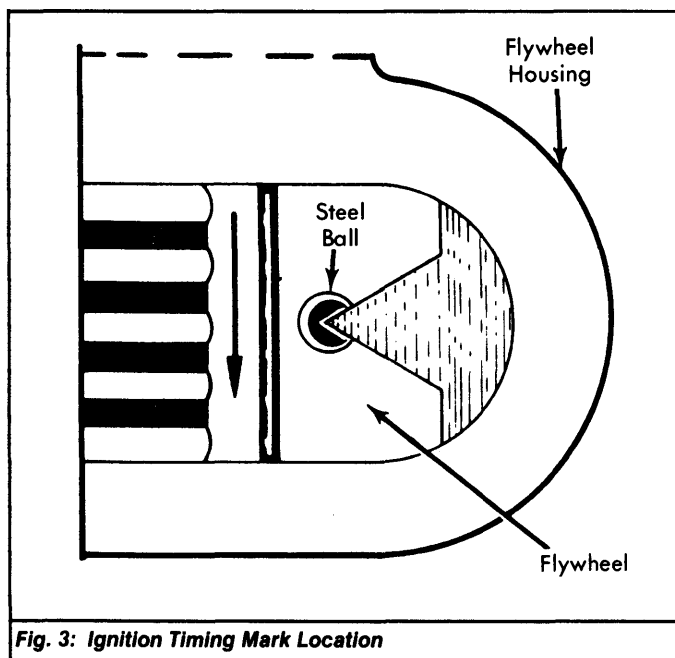

Fig. 3: Ignition Timing Mark Location
- 2) Steel ball embedded in flywheel, long pin on automatic transmission equipped models, should line up with pointer attached to hole in flywheel housing. See Fig. 3.